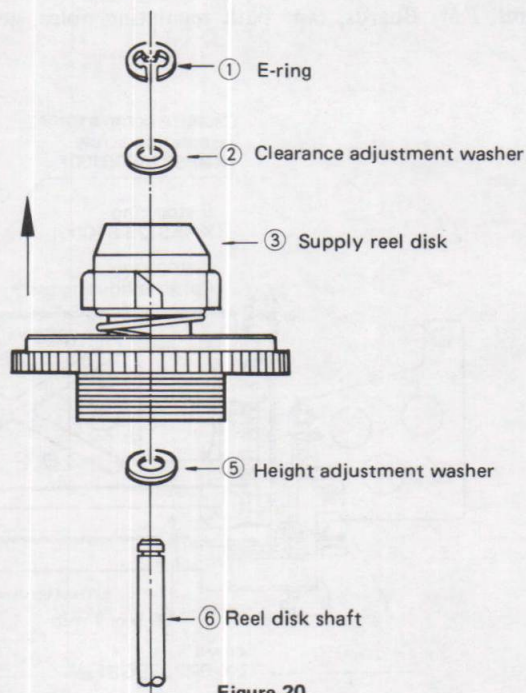

Figure 20.
- ① Remove the E-ring 1 shown in Fig. 20 below.
- ② Remove the clearance adjustment washer ②.
- ③ Pull the supply reel disk ③ in the upward direction and replace.
- ④ Remove the height adjustment washer ⑤, and then clean it.